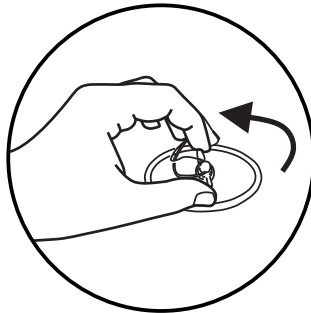

Fig 18 - Engage wing nut, hand tighten only
6. Slide the wing nut over the thread, engage and tighten the wing nut (Fig 18). Only hand tighten the wing nut. This pressure is enough to maintain the seal.